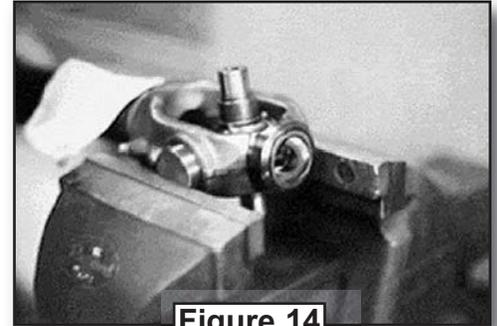

Figure 14
8. Put the shaft yoke into the vise so the bearing cups are square with the jaws of the vise. Make sure the trunnion is aligned with the bearing cups. Tighten the vise until both bearing cups are flush with the yoke (see Figure 14).